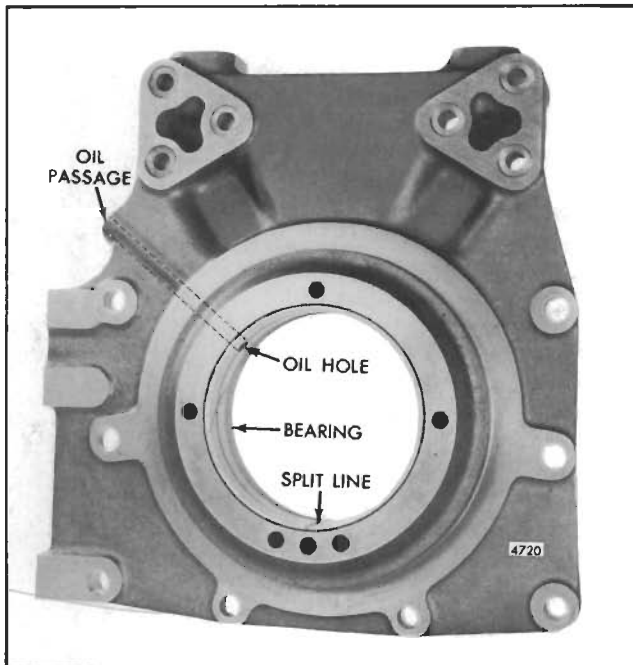

Fig. 1 - Outboard Bearing Support (Trunnion)
4. Inspect the bearing in the support and replace it if necessary. When installing a new bearing, press the bearing in flush with the outer surface of the support. Also be sure the lubricating hole in the bearing lines up with the drilled oil passage, and the split line in the bearing is at the bottom of the support, otherwise oil fed to the bearing and crankshaft will be blocked off (Fig. 1).